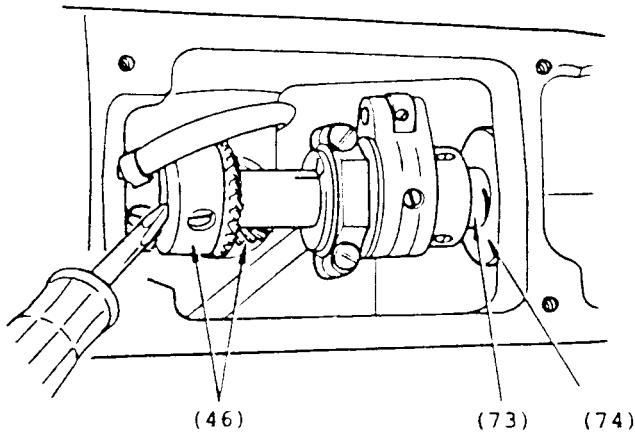
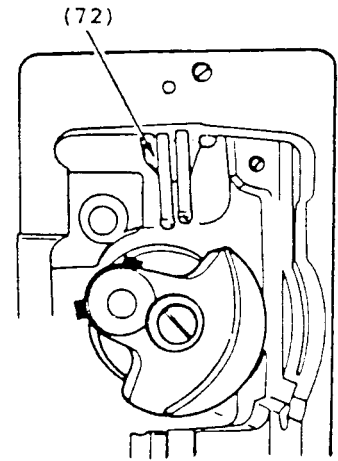

Fig. 34
Fig. 35
9. Turn the needle bar crank until it is in the position shown in Fig. 35 to prevent crank from disturbing the two wick loops in holder (72), Fig. 35, during removal of arm shaft.
10. While maintaining needle bar crank at position shown in Fig. 35, hold bevel gears in mesh by holding the blade of a large screwdriver between thrust collar and bevel gear, as shown in Fig. 34; then push the end of the arm shaft (73) through the bushing (74).
11. Using another shaft (or a drift pin of the same diameter as the arm shaft on these machines), push the arm shaft (73) further through the machine (still keeping the gears at (46) in mesh). This temporary shaft must be pushed sufficiently far into the machine to hold the entire gear and feed eccentric mechanism in position upon it until the new arm shaft is installed. When inserting the temporary shaft (or a drift pin), make certain that every care is taken to avoid injury to the oil seal and ring in the arm shaft bushing (back) and consequent oil leakage.
2. Make certain that the needle bar crank is turned to the position shown in Fig. 35, clearing the two wick loops in oil wick holder (72).